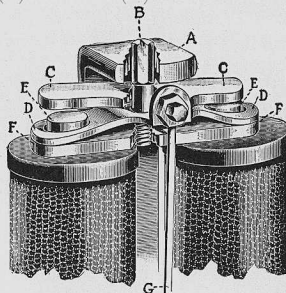
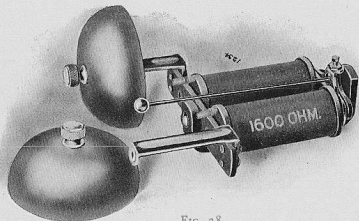

FIG. 27
FIG. 28
contained type ringer, same as shown in Fig. 28. In Fig. 27 is shown a sectional view of the armature end. The permanent magnet (A) is made of the finest grade of magnet steel carefully tempered. The adjustment screw (B) is made of brass and large enough to perform its work without any danger of twisting. This adjusting screw is hexagon shaped and the end is slotted so that the adjustment may be changed either by a screw-driver or wrench. The armature (C) and cores (E) are made of annealed